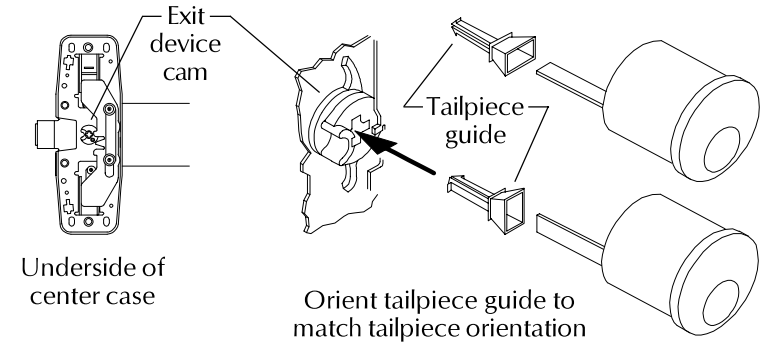

Figure 3. Install tailpiece guide in exit device cam.
14. Install the tailpiece guide in the exit device cam (Figure 3).